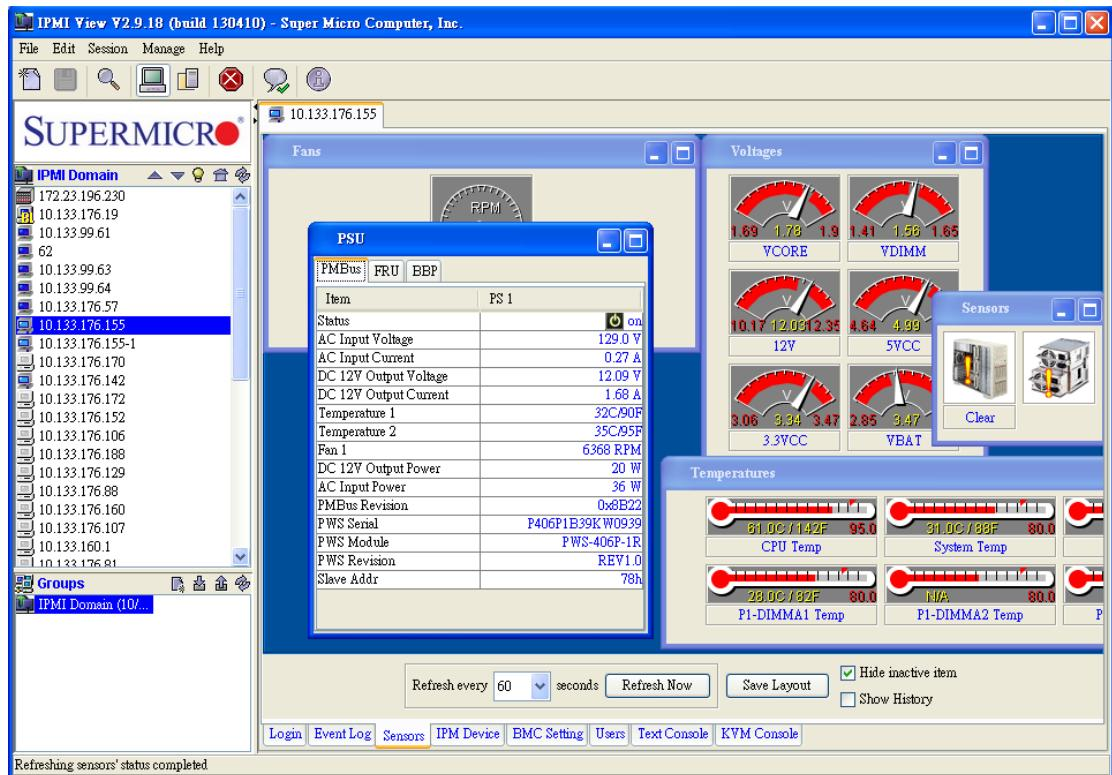

Figure 5-1
This feature displays the status of each sensor used to monitor system health as shown in Figure 5-1.
- The battery can be automatically or manually discharged. In the PSU dialog box (see Figure 5-1), click the <BBP> tab.